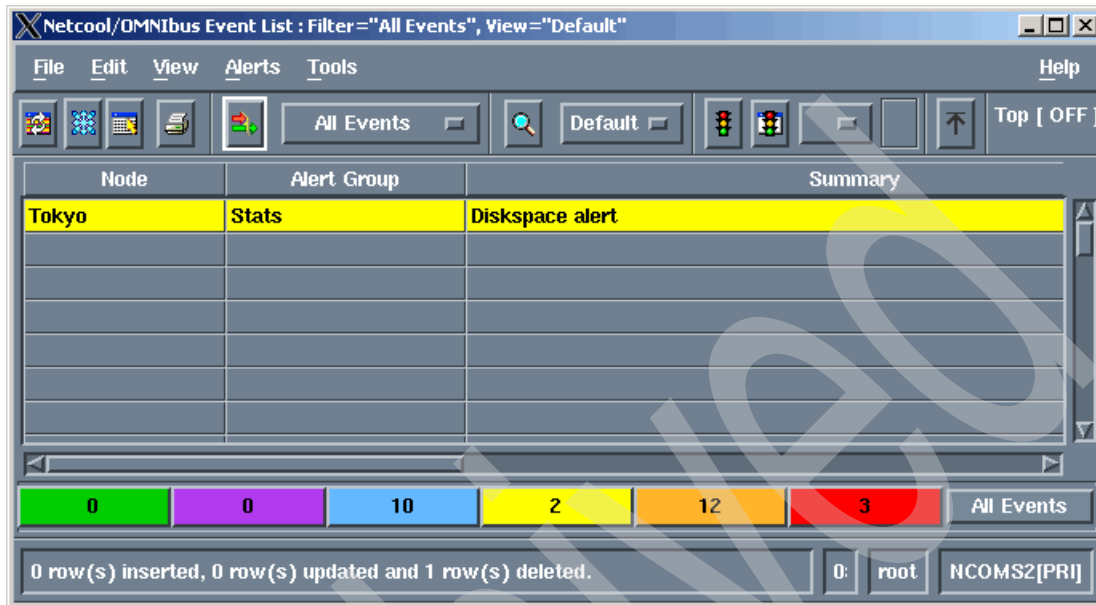

Figure 4-12 AEL on NCOMS2
- c. Check that the modification is passed to the other ObjectServer, as shown in Figure 4-12